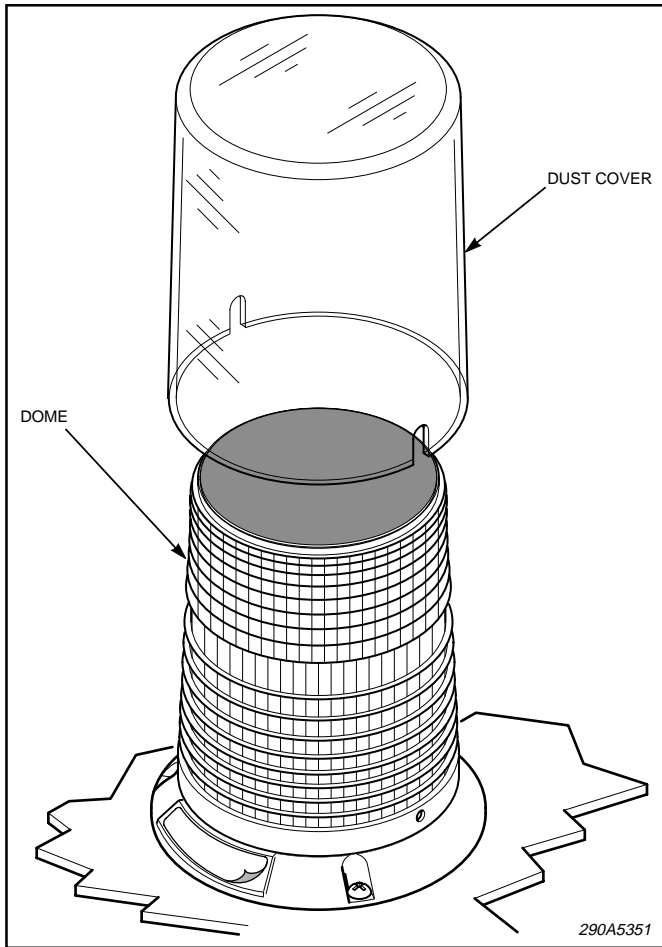

Figure 4.
- a. See figure 4. Place the dust cover over the dome and align the four slots in the dust cover with the four posts on the exterior of the dome.